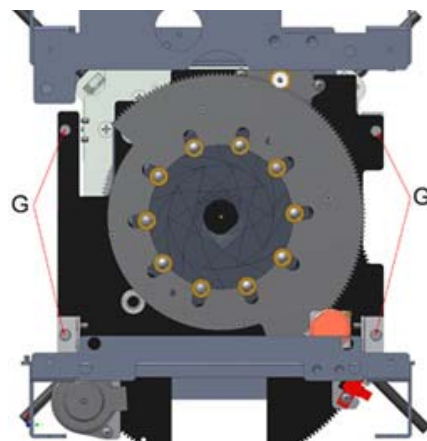

Fig. 4
- Unscrew the 4 screws **G** on the iris support plate, see **Fig. 4**
- Unscrew the 4 screws **G** on the iris support plate, see **Fig.4**
- Loosen the 4 screws **G** on the iris support plate, see **Fig.4**
- To adjust the video camera loosen the screw **C**, see **Fig. 4**.